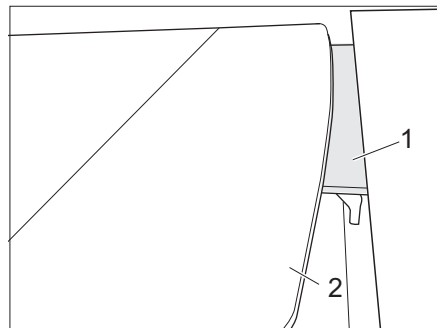
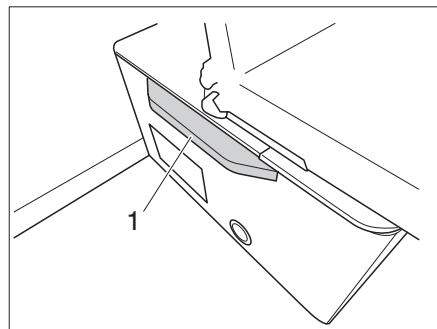

Fig. 65 Lowering the table onto the support edge
Fig. 66 Lowering the table onto the extender
- ▶ Swivel the table-top (Fig. 65,2) down onto the support edge (Fig. 65,1) or set down on the extender (Fig. 66,1) intended for this purpose.